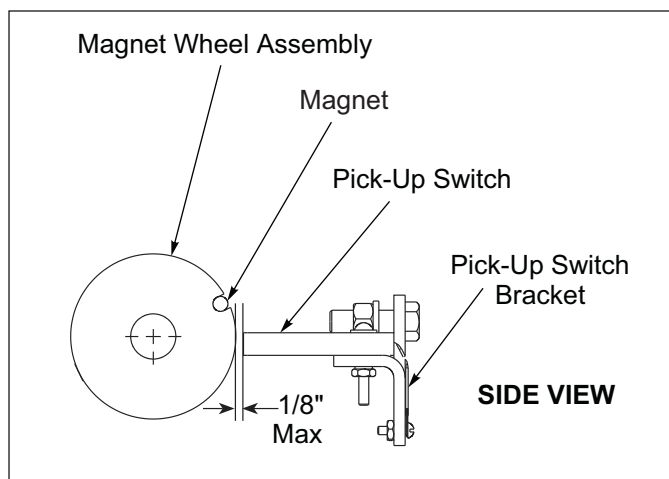

Figure 2-32: Pick-Up Switch Detail
6. Adjust the Pick-Up Switch and Pick-Up Switch Bracket so the centerline of the Magnet Wheel Assembly and Pick-Up Switch are horizontally and vertically aligned with maximum 1/8" between the Magnet Wheel Assembly and Pick-Up Switch. Tighten all Screws. **See Figures 2-32 and 2-33.**